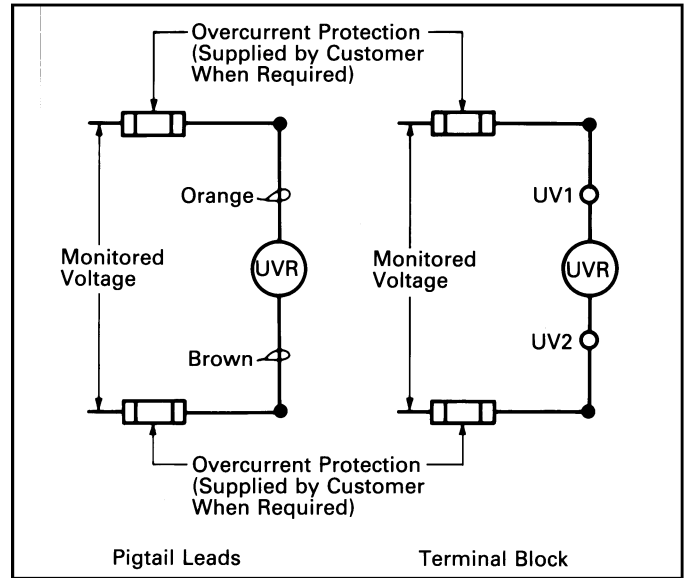

Fig. 2-8 Undervoltage Release Mechanism (Handle Reset) Connection Diagram
- 2-16. Connect UVR as required (see Fig. 2-8).